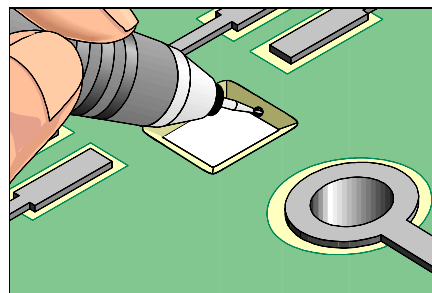

Figure 2: Bevel edge using the Micro-Drill System or file.
- 4A. Bevel the edge using the Micro-Drill System and ball mill or using a file. (See Figure 2).